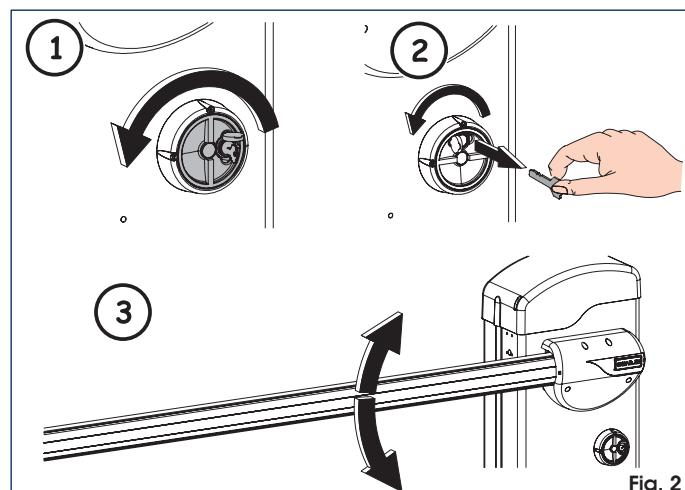

Fig. 2
- Turn the release device counter-clockwise until it stops, Fig. 2 ref. ①.
- Turn the key counter-clockwise until it stops and then remove it, fig. 2 ref ②.
- Move the rod by hand until it stops, fig. 2 ref. ③.